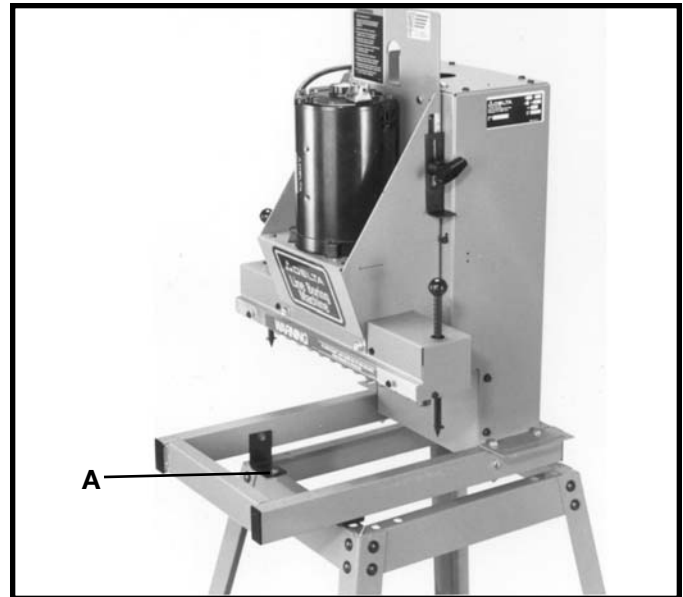

Fig. 7
If you purchased the accessory 32-331 steel stand for use with your boring machine, assemble the machine to the stand using four 5/16-18x3/4" hex head screws, one of which is shown at (A) Fig. 7, 5/16" flat washers, 5/16" lockwashers and 5/16-18 hex nuts supplied with the accessory stand. **NOTE:** Align the four holes in the machine with the four holes in the stand. Insert the 3/4" hex head screw through the top of the machine and stand, place a flat washer onto the 3/4" hex head screw, then place a lockwasher onto the 3/4" hex head screw, and thread a nut onto the screw and tighten securely. Repeat this process for the three remaining holes.